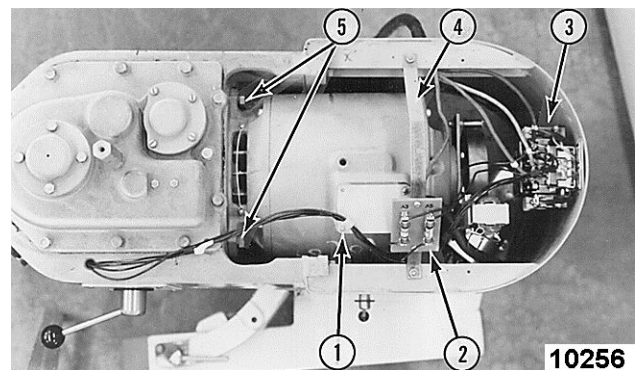

Fig. 92
6. Remove P-clip on motor junction box [1] Fig. 92.
7. Remove the top cover support bracket [4] Fig. 92. If mixer has a power bowl lift, remove the fuse block on bracket [2] Fig. 92.